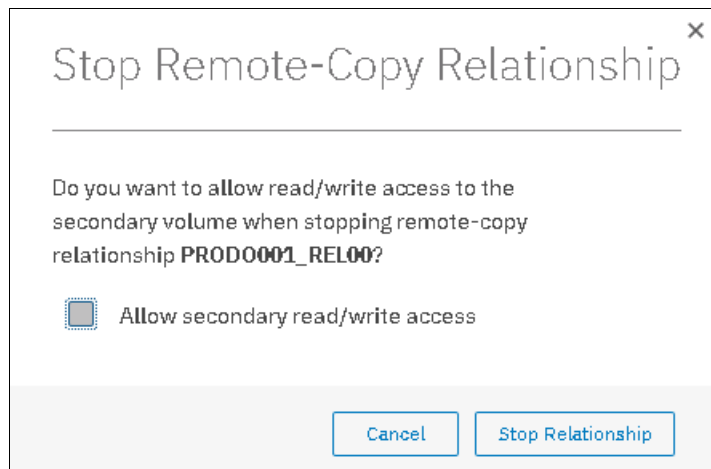

Figure 10-118 Stop Remote Copy Relationship
- The Stop Remote Copy Relationship window opens, as shown in Figure 10-118. To allow secondary read/write access, select **Allow secondary read/write access**. Then, click **Stop Relationship**.